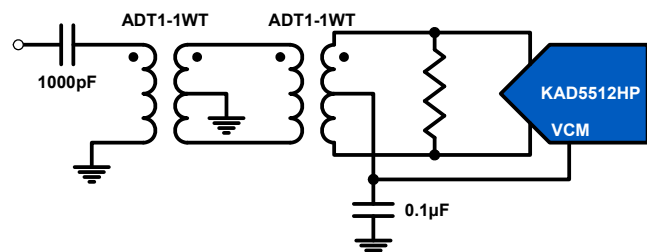

FIGURE 27. TRANSFORMER INPUT FOR GENERAL PURPOSE APPLICATIONS
Best performance is obtained when the analog inputs are driven differentially. The common-mode output voltage, VCM, should be used to properly bias the inputs as shown in Figures 27 through 29. An RF transformer will give the best noise and distortion performance for wideband and/or high Intermediate Frequency (IF) inputs. Two different transformer input schemes are shown in Figures 27 and 28.